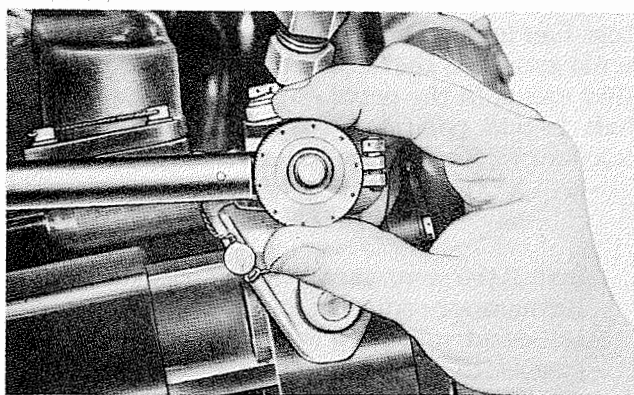
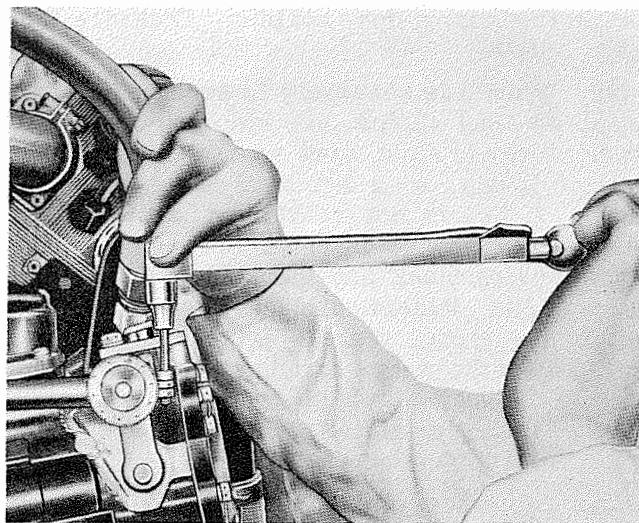

Figure 7-106. Rotating Knurled Cam
Figure 7-107. Tightening Clamp Screw at Cam End of Synchronizing Rod
g. To make a fine adjustment, rotate the knurled cam at the right end of the rod, thereby rotating the bearing. See figure 7-106. Install the cotter pin through holes which align in the knurled cam and the clamp. Torque the clamp screw to 10 - 15 inch-pounds using wrench 806983. See figure 7-107. Avoid overtightening the clamp screw which will cause binding in the bearing. Check the bearing for freedom of motion after tightening the clamp screw.